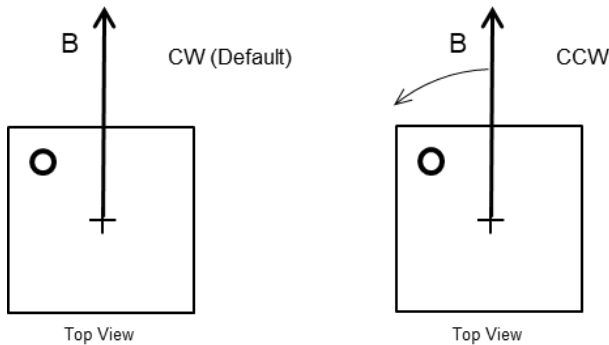

Figure 31: Positive Rotation Direction of the Magnetic Field
When looking at the top of the package, the angle increases when the magnetic field rotates clockwise (CW) by default (see Figure 31).